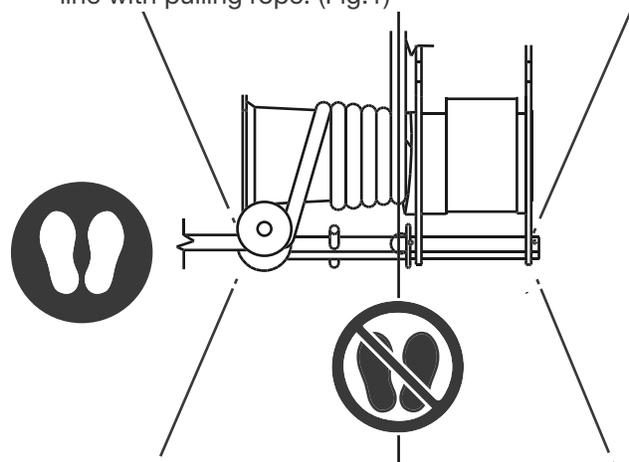

Figure 1: Stand to side of Puller
6. Determine where operator will stand. Do not stand in line with pulling rope. (Fig.1)